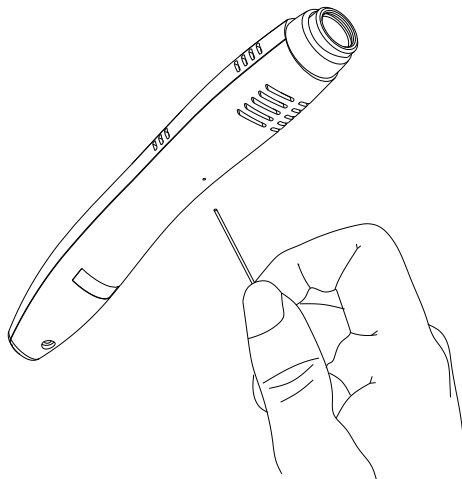

Figure 9
7. Whenever press the on/off button or mode button on keypad, there is no response in timer display, nor light.	The light program is crashing. ▶ Use a clip to poke through the hole on the back of handpiece to reset the light program. (Please refer to Section 9, figure 9)